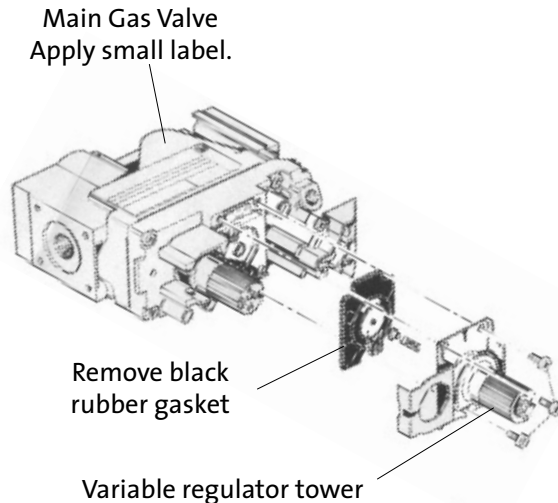

Figure 27. Regulator assembly.
13. **Replace the Variable Regulator.** Using a Torx T-20 screwdriver, remove the three screws from the front of the valve regulator. See fig. 27.
14. **Remove the Regulator Tower, Gasket, white plastic disk, and Spring.** Remove the black rubber gasket from the valve. See fig. 27.